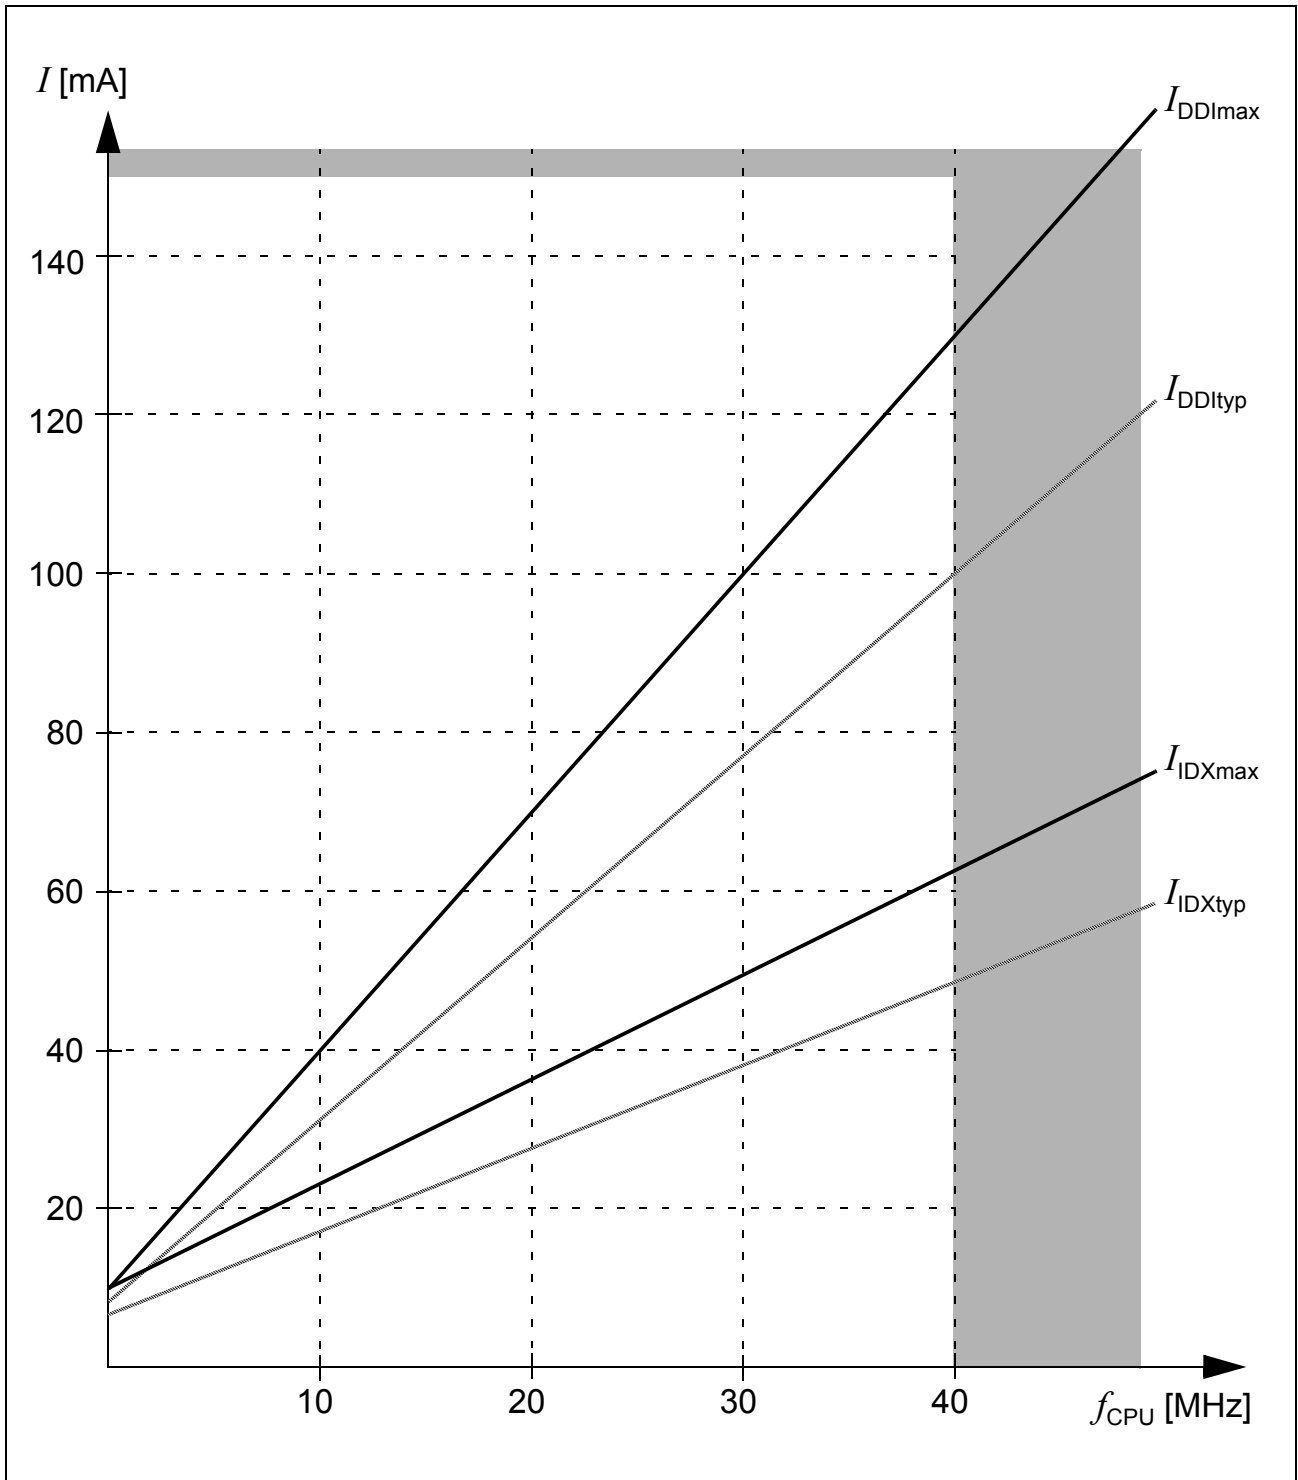

Figure 11 Supply/Idle Current as a Function of Operating Frequency
2) The supply current is a function of the operating frequency. This dependency is illustrated in Figure 11. These parameters are tested at V_{DDImax} and maximum CPU clock frequency with all outputs disconnected and all inputs at V_{IL} or V_{IH} .